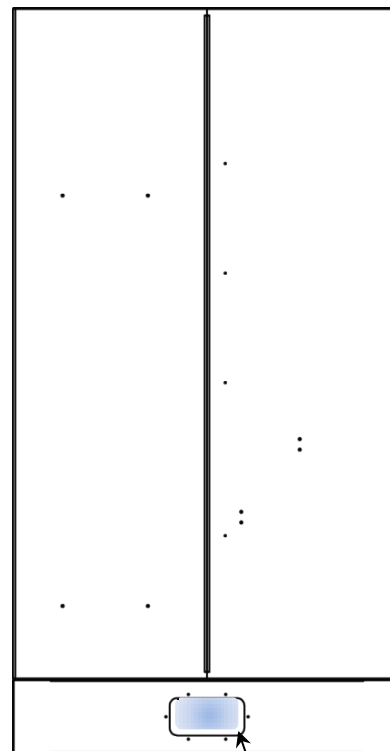

Figure 8
- Route services through the rear of SSTT-SW's metal plinth (remove rectangular plate) see Fig. 8